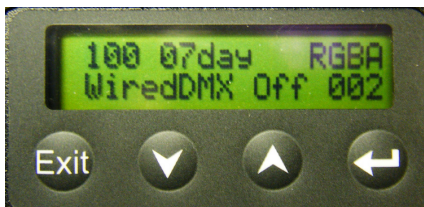

Figure 1
On power-up the display shows the model name "Color Charge" and software version V### for 5 seconds, then proceed to the main menu or home position showing in Figure 1 - the battery capacity in percentage (100), length of battery life in number of days (07day) or hours and minutes (00h00), control mode (RGBA), DMX status (Wired/WirelessDMX On/Off), and DMX address (002).